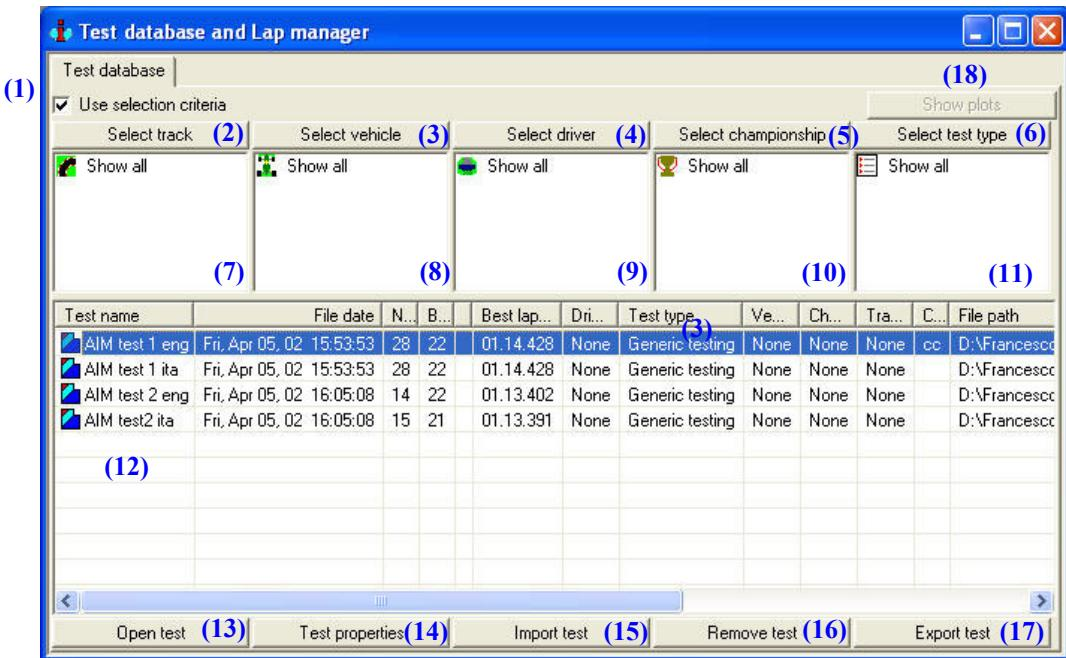
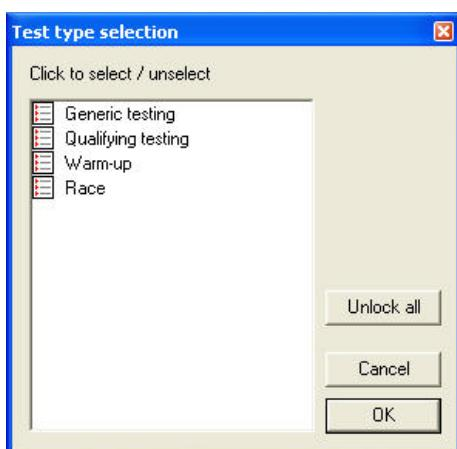
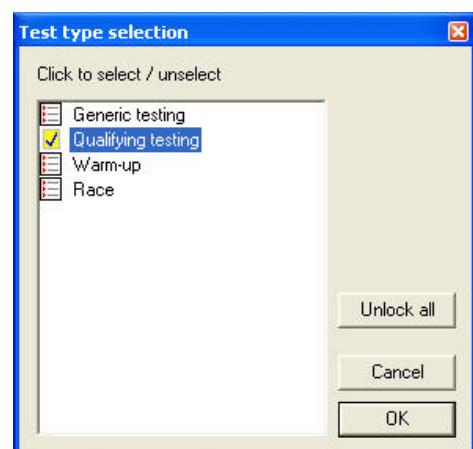
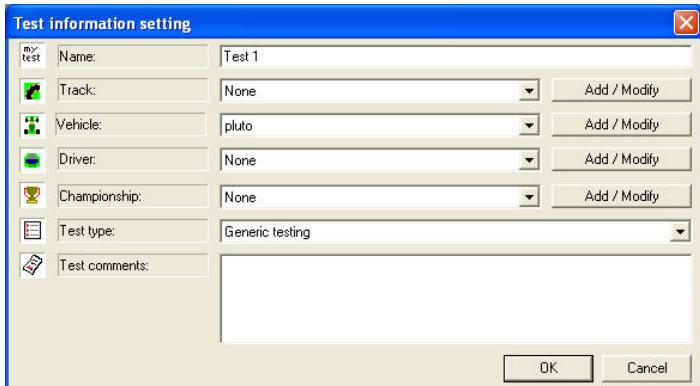

Fig. 3.1– Test database and Lap manager window: Test database layer.
Fig. 3.2– Test type selection: no test type selected
Fig. 3.3– Test type selection: Qualifying testing selected
Fig. 3.5– Add test to database window
Once run **Race Studio Analysis**, it will appear the *Test database and Lap Manager* window, as shown in Figure 3.1. This window is divided into two separate rows:
- Left click on the desired pushbutton: press button “Select track” **(2)** if you wish to select the track name, press button “Select vehicle” **(3)** if you wish to set the vehicle name, etc...In the following figures 3.2 and 3.3, it has been selected the “Test type” button **(6)**.
- As shown in Figure 3.2, it will appear a window showing all the sub-categories included inside the selected database's category. If you wish to select a sub-category, left click the desired one. The selected sub-category will become "checked", as shown in Figure 3.3.
- The selected database's sub-categories will appear inside the corresponding "selection box", labelled from (7) to (11). For instance, in the example described in Figure 3.3, it will appear the text "Qualifying testing" inside the selection box number (11) of Figure 3.1.
- Option 1: left click on the file name and press "Open test button" (13).
- Once run **Race Studio Analysis**, it will appear the *Test database and lap manager* window, as shown in Figure 3.1.
- Push the "Import test" (15) button and select the test you wish to add to the database. It is reminded that you may import a test both from your PC's hard disk and from the floppy disk but **not** from the CD-ROM drive. In this last case, it is suggested first to copy the DRK file on your PC's hard disk and then to import it in the database.
- As shown in Figure 3.5, the user may set 5 parameters, each one of them belongs to a database category (Vehicle name, Driver, Track, Championship and Test type).
- From the Add test to database window, instead of pressing the “Add/Modify” button, select the desired vehicle name from the corresponding “combo” menu, located in the middle of Figure 3.5.
In order to modify the test properties, please select the desired test (single-click on the test name), and then press button *Test properties*. It will appear the *Test information setting* window, as shown in Figure 3.5.
If you wish to delete a test from the database, please enter the *Test database and Lap manager*, shown in Figure 3.1, and select the test you wish to delete by single-clicking on the test name.